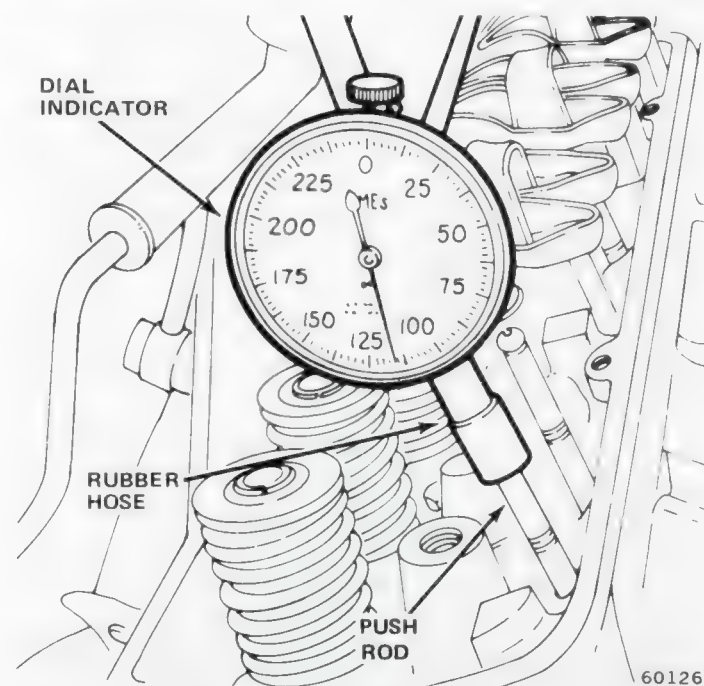

Fig. 1B-135 Cam Lobe Lift Measurement
(1) Remove cylinder head covers and gaskets.
(2) Remove rocker arms and bridged pivot assemblies. Alternately loosen capscrews one turn at a time to avoid damaging bridge.
(3) Remove spark plugs.
(4) Install dial indicator on end of push rod (fig. 1B-135). Use piece of rubber tubing to secure dial indicator plunger to push rod.